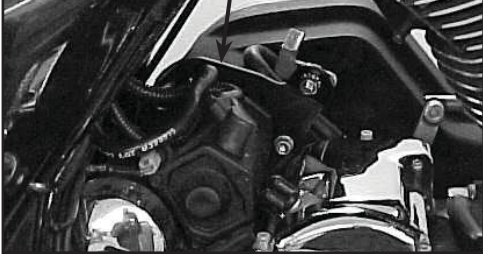

FIGURE 2
13. (Cont'd) **Late Models 07-08:** Remove the rear cylinder bracket by removing the two starter mounting bolts. Install new bracket stamped 422-P (supplied) and torque to 13-16 ft. lbs. (Figure 2). NOTE: Twist breather hose down towards the left hand side to get it as far away from the exhaust pipe as possible.